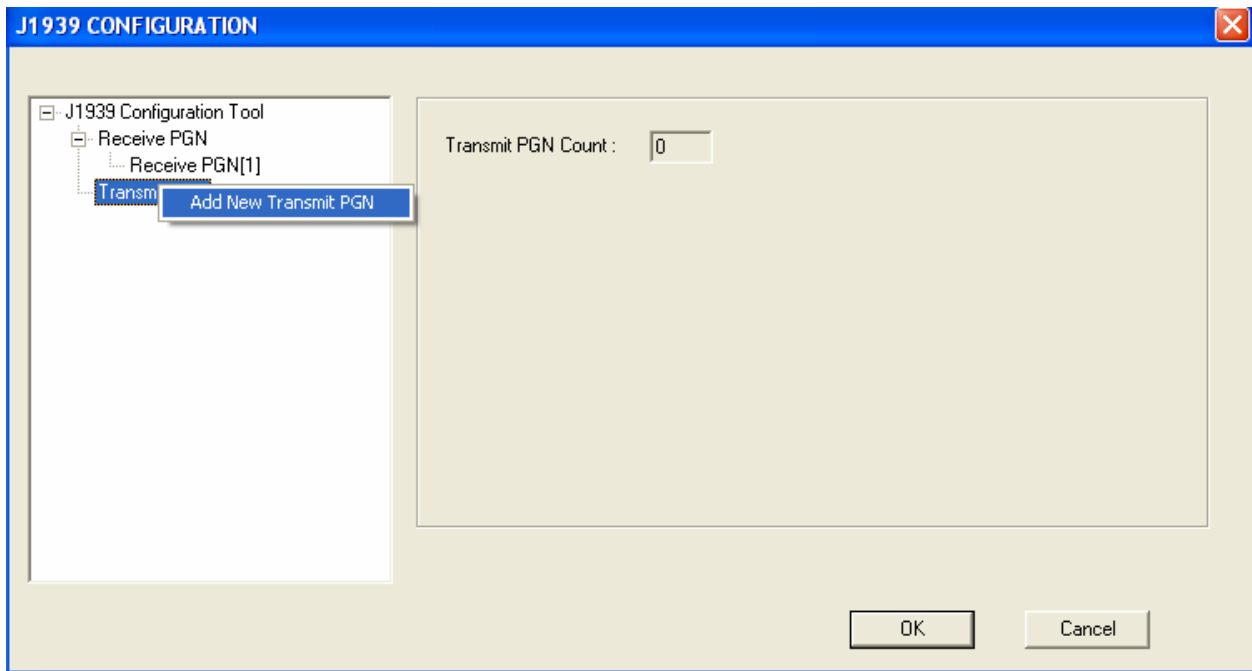

Figure 3.6 – Configuration of Transmit PGN
4. Similarly to configure Transmit PGN, Right click on Transmit PGN and select “Add New Transmit PGN” as shown in Fig 3.6.